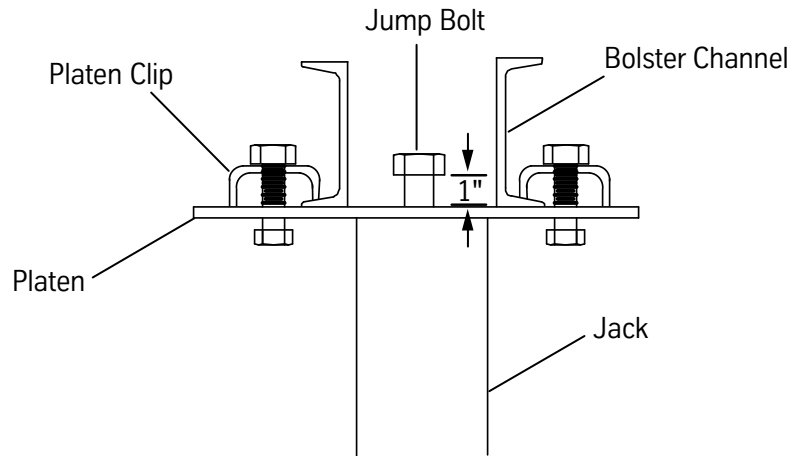

Figure 32 - Jump Bolt through Platen Plate
- e. Align the platen as necessary, and tighten platen clips to the bolster channels. See Figure 32.